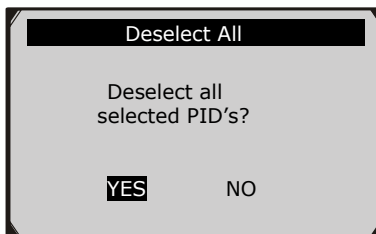

Figure 5.18
- A message comes up to ask for your confirmation.( Figure 5.18)